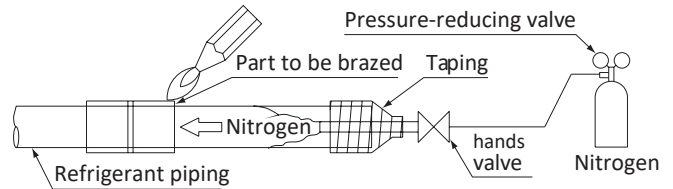

Figure 14
**WHEN BRAZING THE REFRIGERANT PIPING, PERFORM NITROGEN REPLACEMENT FIRST OR PERFORM THE BRAZING WHILE FEEDING NITROGEN INTO THE REFRIGERANT PIPING. (REFER TO FIGURE 14.)**